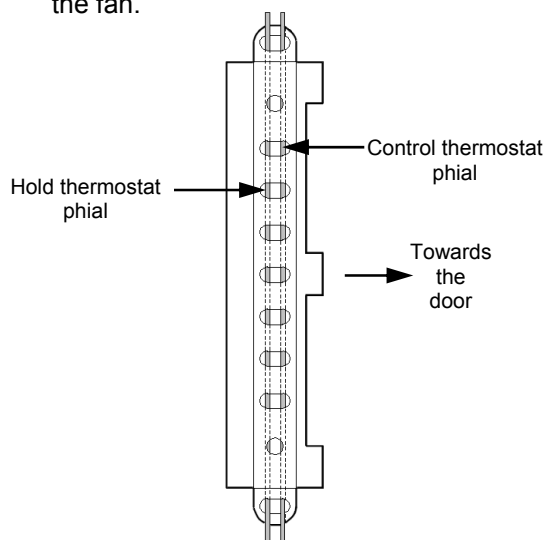

Figure 6.3.11
**NOTE:** Ensure that the thermostat phials are located in their correct positions. The main thermostat probe must be on the side closest to the door. The hold thermostat must be on the side closest to the fan (refer figure 6.3.11).